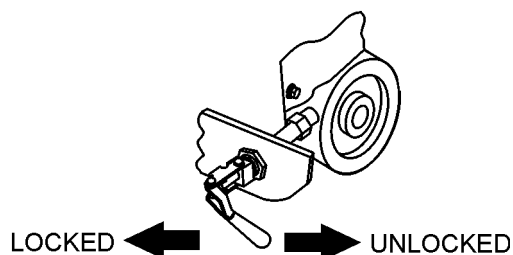

Figure 19. Wheel Clamp
1. Ensure the wheel clamps are in the **LOCKED** position. (Figure 19).